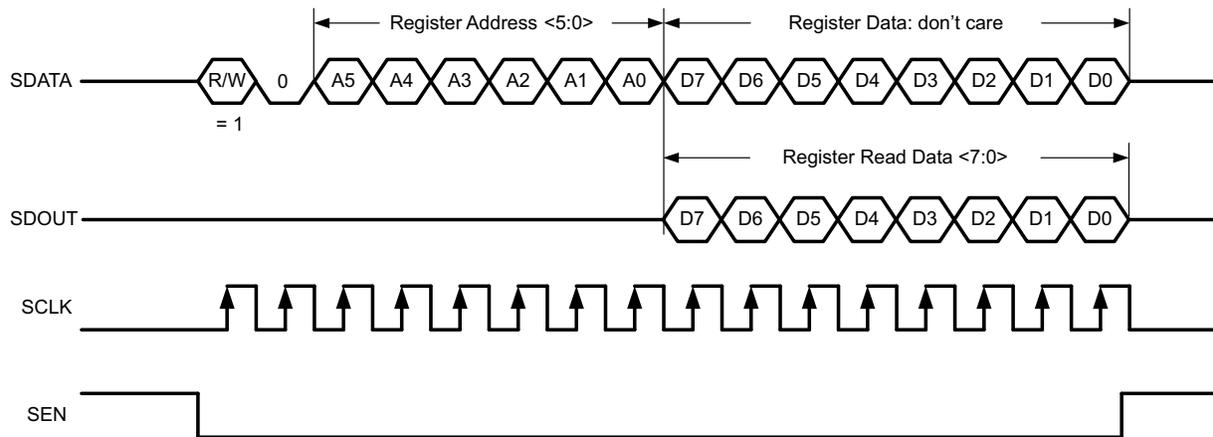
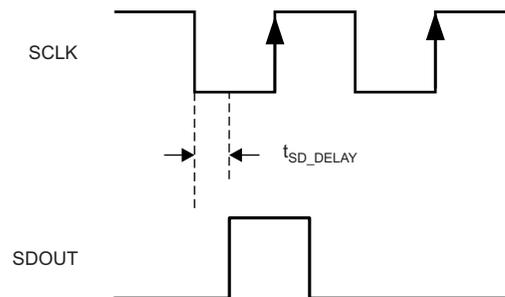

Figure 48. Serial Register Readout Timing Diagram
Figure 49. SDOOUT Timing Diagram
2. Write the register address on bits A5 through A0 whose contents must be read. See Figure 48.
When serial registers are enabled for writing (when bit A7 of the 8-bit address bus is '0'), the SDOOUT pin is in a high-impedance mode. If serial readout is not used, the SDOOUT pin must float. Figure 48 shows a timing diagram of this readout mode. SDOOUT comes out at the SCLK falling edge with an approximate delay (t_{SD_DELAY}) of 20 ns, as shown in Figure 49.